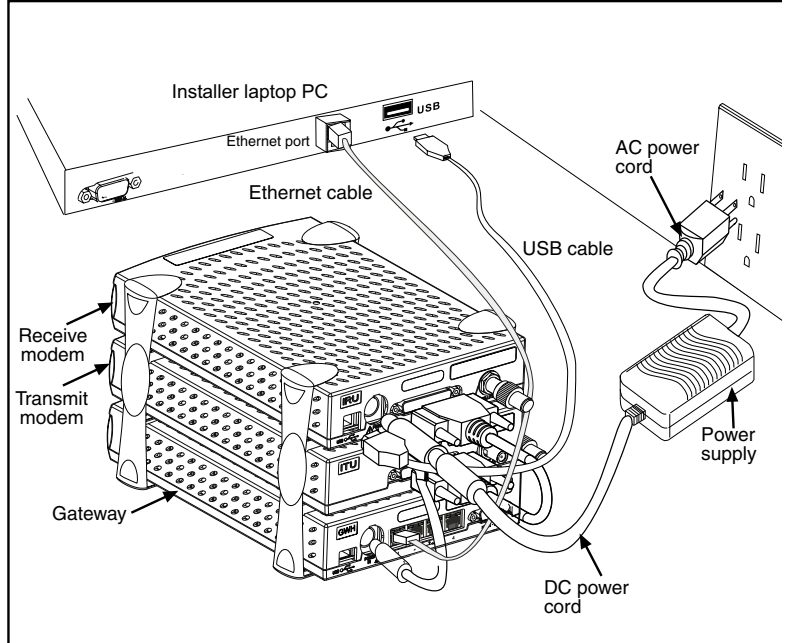

Figure 12: Connect power cord
6. Attach the power supply cords to the power supply and to the power adapter. Ensure that the power cord is tightly connected to the power supply, receive modem, and Gateway. See Figure 12.